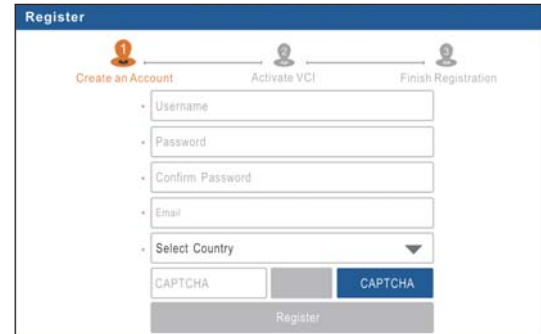

Fig. 4-3
A. If you are a new user, tap “New Registration” to enter registration page. See Fig. 4-3.
In Fig. 4-3, fill in the information in each field (Items with * must be filled). After inputting, tap “Register”, a screen similar to the following